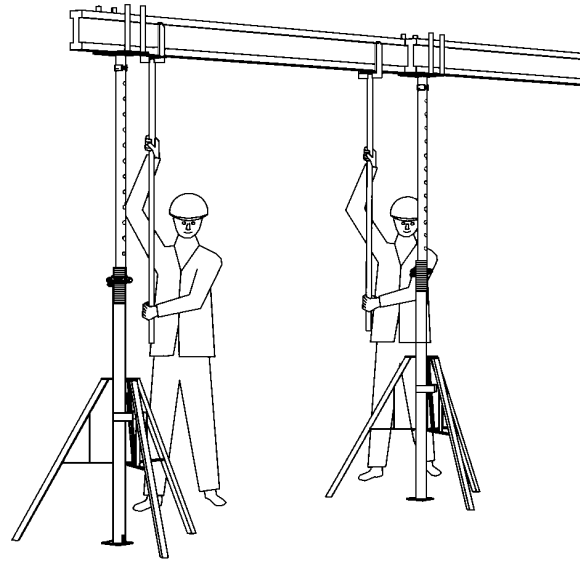

Fig. 3.5 Stringer Placement
4. Lay the stringer beams in the Fork Heads (Fig. 3.5).